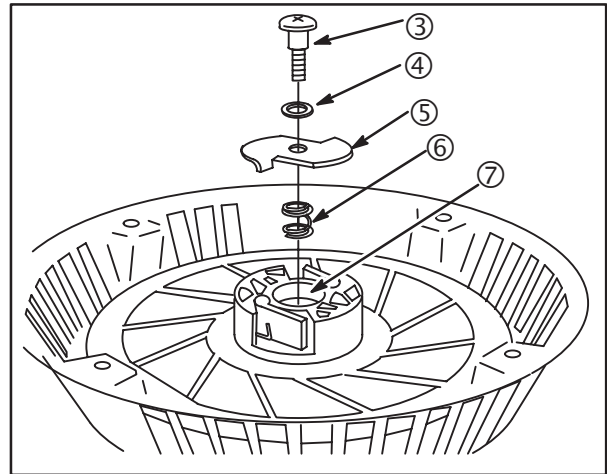

Fig. 73
2. Place large washer (7), brake spring (6) and retainer (5) on pulley, **Fig. 73**.
3. Place small washer (4) on shoulder screw (3). Install screw and washer in center pivot post.